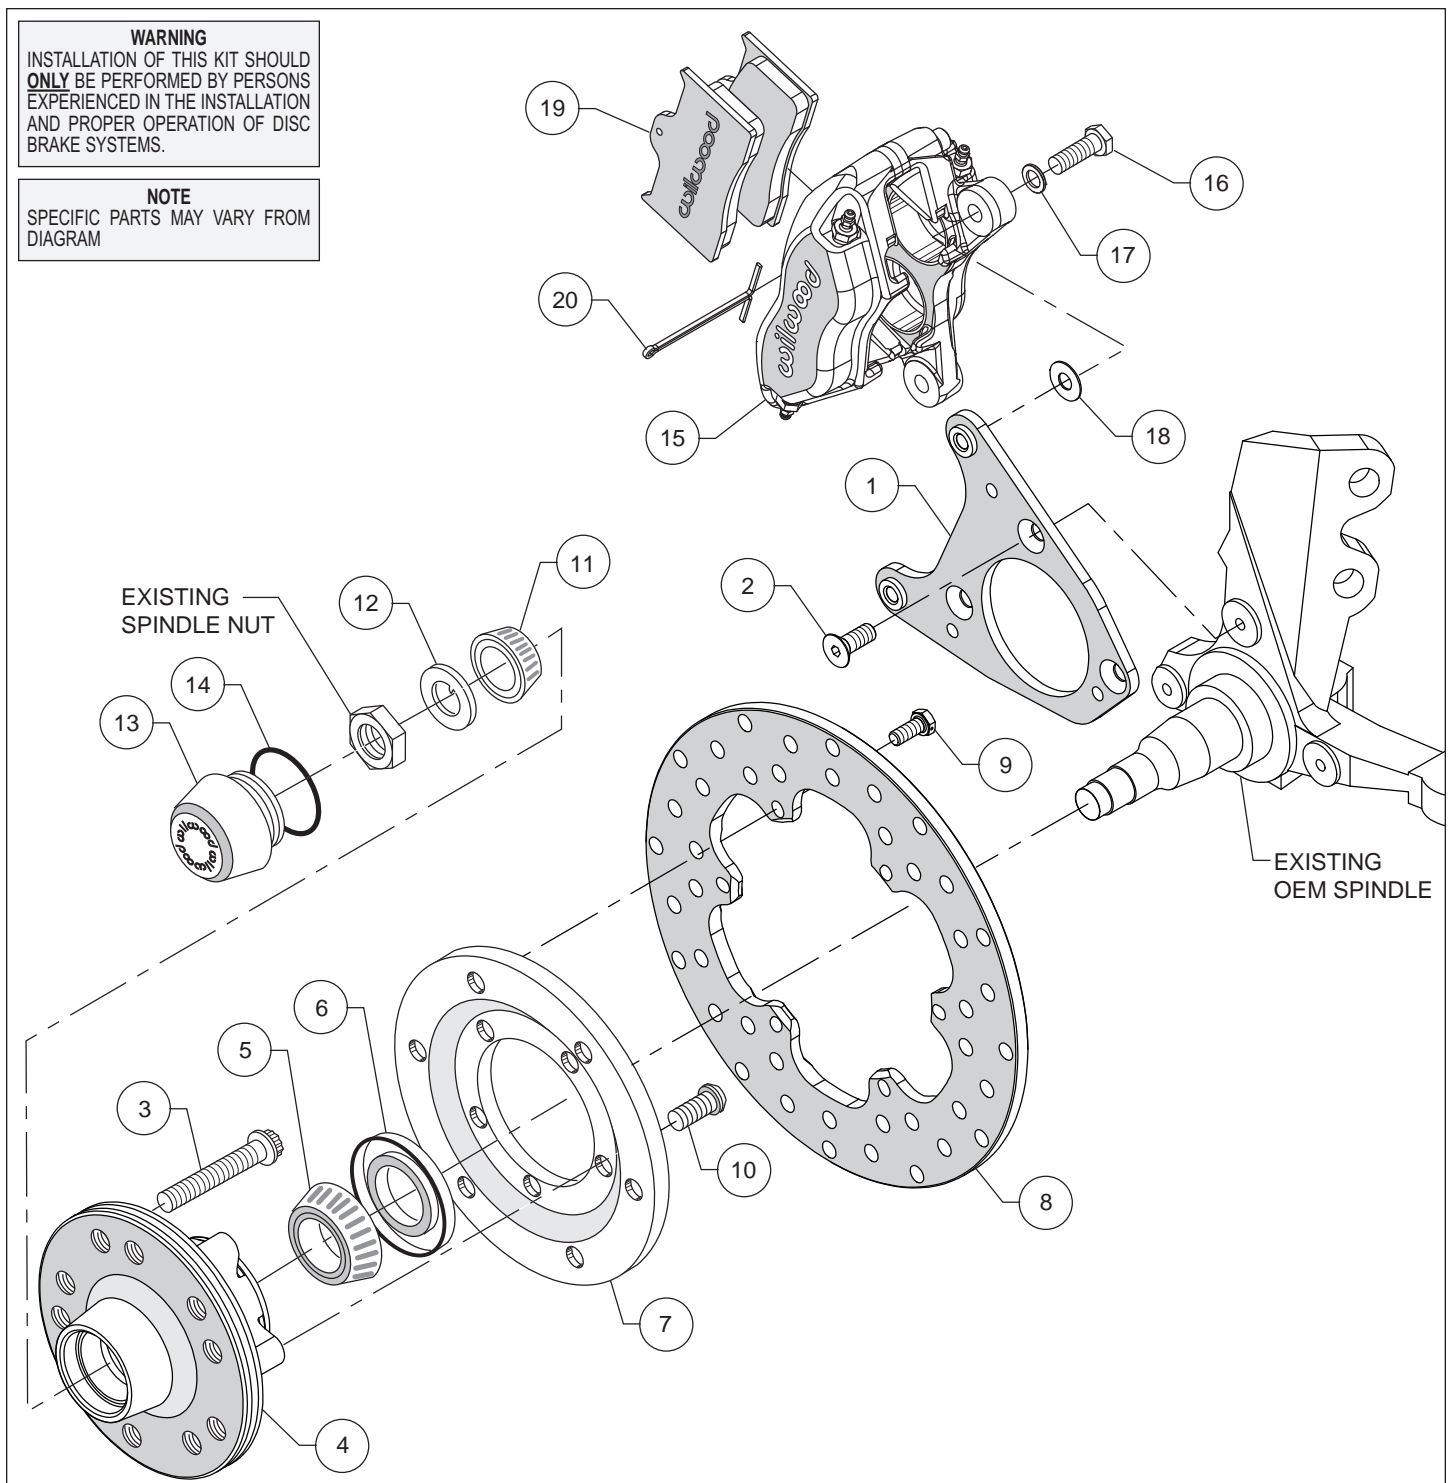
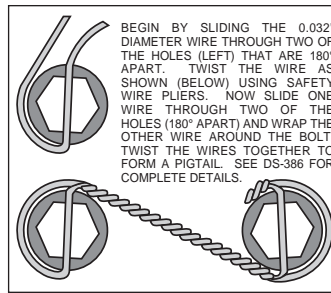
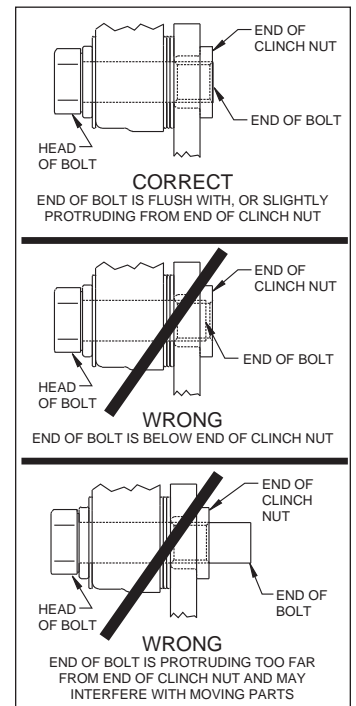

Figure 1. Typical Installation Configuration
Figure 3. Safety Wire Diagram
Figure 4. Clinch Nut Engagement Diagram
**Assembly Instructions** (numbers in parenthesis refer to the parts list, on the preceding page and Figure 1): **CAUTION:** All mounting bolts must fully engage clinch nuts. Be sure to check that all bolts are either flush or protruding through flanged side of clinch nut after shimming, Figure 4.
- Orient the caliper mounting bracket (1) as shown in Figure 1 and Photo 2. Attach using bolts (2), Figure 1. Temporarily tighten the mounting bolts. Ensure that the flanged heads of the clinch nuts in the bracket are facing outboard, Photo 2. **NOTE:** The bracket must fit squarely against the mounting points on the spindle. Inspect for interference from casting irregularities, machining ridges, burrs, etc. Remove bolts one at a time, apply red *Loctite*® 271 to threads and torque to 40 ft-lbs.
- Install wheel studs (3) into the hub (4), Photo 3. Torque to 77 ft-lb. **NOTE:** There are two five lug patterns in the hub (5 x 4.50 and 5 x 4.75). Ensure the correct hub stud pattern is being used to fit the wheel application.
- Pack the large inner bearing cone (5) with high temperature disc brake bearing grease (available from your local auto parts store) and install into the backside of the hub (4), Photo 4.
- Install the grease seal (6) by pressing into the backside of the hub (4), flush with the end of the hub, Photo 4.
- Orient the rotor (8) and the rotor adapter (7) as shown in Figure 1 and Photo 5. Attach the rotor to the adapter using bolts (9). Using an alternating sequence, apply red *Loctite*® 271 to the threads, and torque to 25 ft-lbs. Safety wire bolts using standard 0.032 inch diameter stainless steel safety wire as shown in Figure 3. Refer to Wilwood's data sheet DS-386 (available at [www.wilwood.com/Pdf/DataSheets/ds386.pdf](http://www.wilwood.com/Pdf/DataSheets/ds386.pdf)) for complete safety wire installation instructions.
- Mount the adapter/rotor assembly (7 and 8) to the hub (4) using bolts (10), as shown in Figure 1 and Photo 6. Using an alternating sequence, apply red *Loctite*® 271 to the threads and torque to 45 ft-lb.
- Pack the small outer bearing cone (11) with high temperature disc brake bearing grease and install into hub (4). Slide the hub/rotor assembly onto the spindle. Secure using spindle washer (12) and OEM spindle nut, Photo 7. Adjust bearings per OEM specifications. Install saved OEM nut lock (if any) and a new cotter pin (not included).
- Screw dust cap (13) into hub (4), Photo 8. Friction created by the o-ring (14) on the dust cap keeps it from unscrewing. **NOTE:** The O.D. of the existing OEM spindle washer may be larger than the I.D. of the dust cap not allowing it to seat against the hub face. Therefore, use the spindle washer (12) supplied with the kit instead of the OEM washer.
- NOTE:** Please reference the caution statement at the beginning of the assembly instructions. Mount the caliper (15) onto the caliper mounting bracket (1) using bolts (16) and washers (17), as shown in Figure 1. Initially place one .035" thick shim (18) on each bolt between the caliper and the bracket, Photo 9. Temporarily tighten the mounting bolts and view the rotor (8) through the top opening of the caliper. The rotor should be centered in the caliper, Photo 10. If not, adjust by adding or subtracting shims (18) between the bracket and the caliper. Always use the same amount of shims on each of the two mounting bolts. **NOTE:** The end of each bolt must be flush with or slightly protruding from the head of the clinch nut, as shown in Figure 4. If necessary place spare shims (18) between washer (17) and caliper mounting ear to achieve the proper clinch nut engagement. Once the caliper alignment and clinch nut engagement are correct, remove the bolts one at a time, apply red *Loctite*® 271 to bolt threads, and torque to 40 ft-lb. For an added measure of security, the bolts may be safety wired using standard 0.032 inch diameter stainless steel safety wire as shown in Figure 3. Refer to Wilwood's data sheet DS-386 (available at [www.wilwood.com/Pdf/DataSheets/ds386.pdf](http://www.wilwood.com/Pdf/DataSheets/ds386.pdf)) for complete safety wire installation instructions.
- Install the disc brake pads (19) into the caliper, with the friction material facing the rotor (8), Photo 11, and secure in place using cotter pin (20), Photo 12.